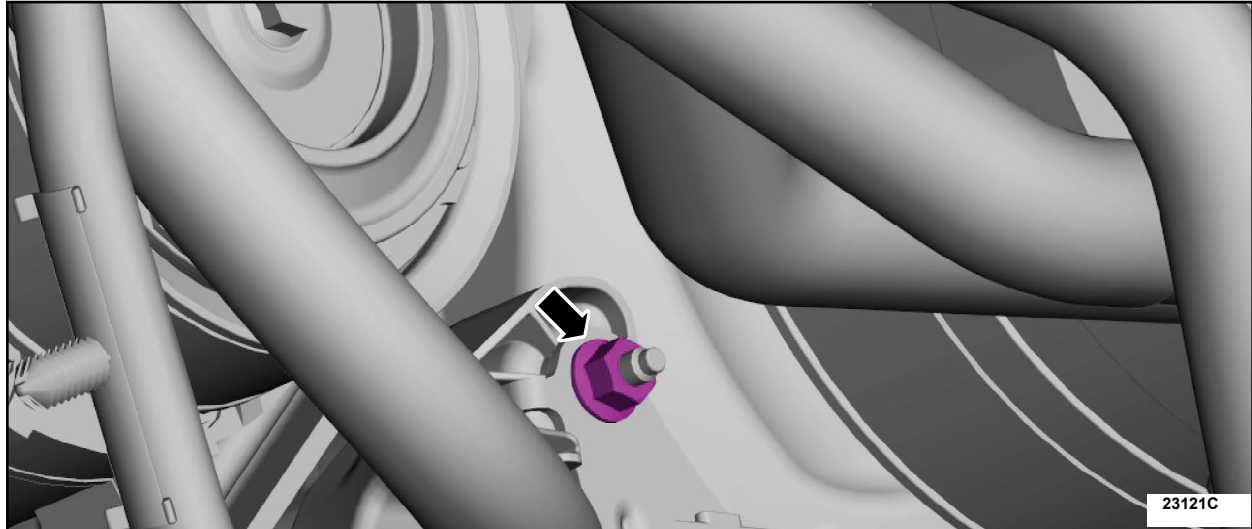

FIGURE 31
46. Attach the transmission cooler tube bracket nut. See Figure 31.